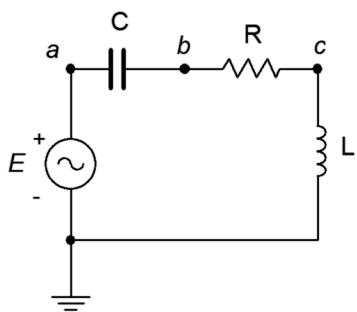

Figure 2.21
37. For the circuit of Figure 2.21, find v_b and v_{ac} . The source is a 50 volt peak-peak sine at 10 kHz, $R = 100 \Omega$, $C = 200 \text{ nF}$ and $L = 1 \text{ mH}$.